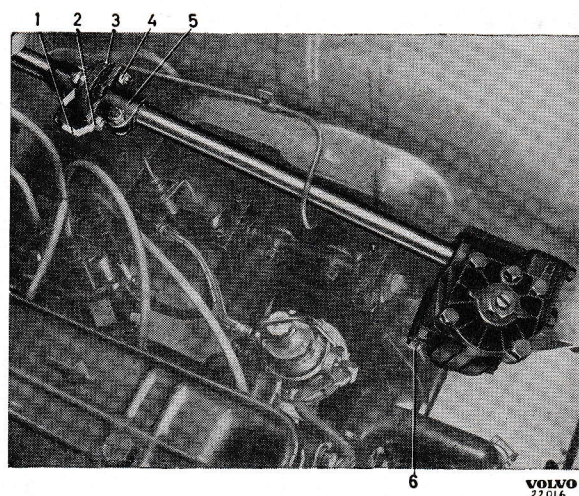

Fig. 23. Steering box.
2. Unscrew the two nuts (2 and 4, Fig. 23) and remove the bolts.
4. Unscrew and remove the three attaching bolts (6, Fig. 23).
1. Wash the steering box clean externally and remove the carrier (5, Fig. 23) from the steering column.
- 1. Place the steering worm in position. Be careful when moving the carrier past the brake line. Fit the attaching bolts (6, Fig. 23).
- 2. Assemble the carrier (5) to the coupling disc (3). Do not forget the earth lead (1).
- 3. Adjust the position of the steering worm so that there is the least possible strain on the coupling disc, that is to say, the upper and lower parts of the steering column should form a straight line. Tighten the attaching nuts (6).